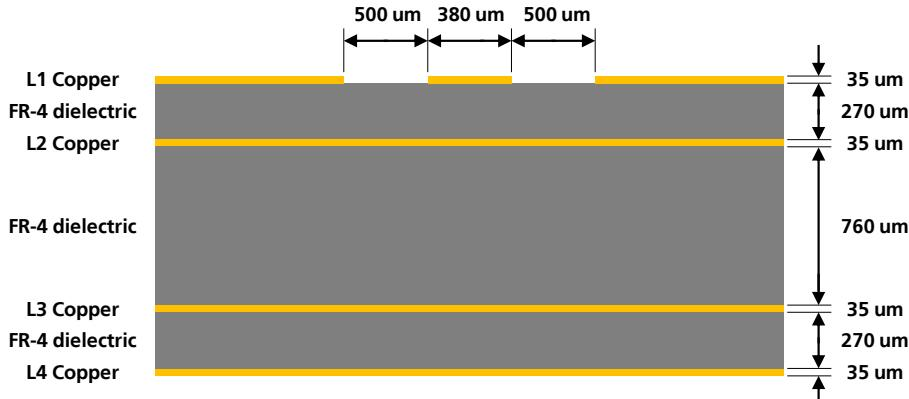
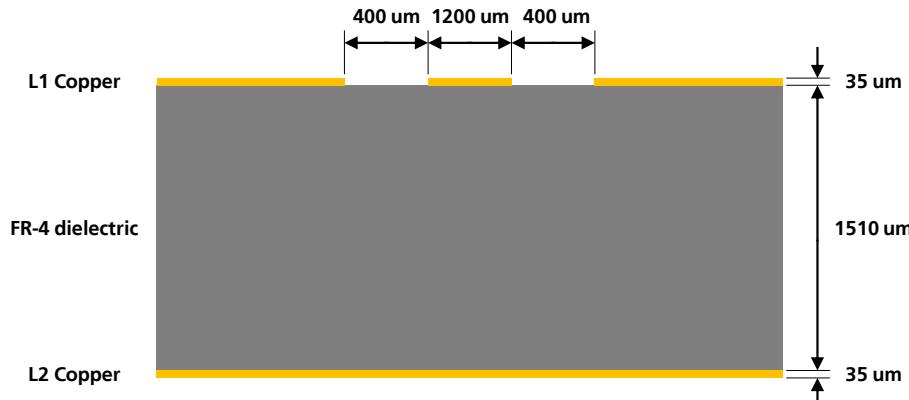

Figure 50: Example of $50\ \Omega$ coplanar waveguide transmission line design for the described 4-layer board layup
Figure 51: Example of $50\ \Omega$ coplanar waveguide transmission line design for the described 2-layer board layup
Figure 50 and Figure 51 provide two examples of proper $50\ \Omega$ coplanar waveguide designs. The first transmission line can be implemented in case of 4-layer PCB stack-up herein described, the second transmission line can be implemented in case of 2-layer PCB stack-up herein described.
- the thickness of the transmission line itself (e.g. 35 μm in the example of Figure 50 and Figure 51)
- the thickness of the dielectric material between the top layer (where the transmission line is routed) and the inner closer layer implementing the ground plane (e.g. 270 μm in Figure 50, 1510 μm in Figure 51)
- the dielectric constant of the dielectric material (e.g. dielectric constant of the FR-4 dielectric material in Figure 50 and Figure 51)
- the gap from the transmission line to the adjacent ground plane on the same layer of the transmission line (e.g. 500 μm in Figure 50, 400 μm in Figure 51)